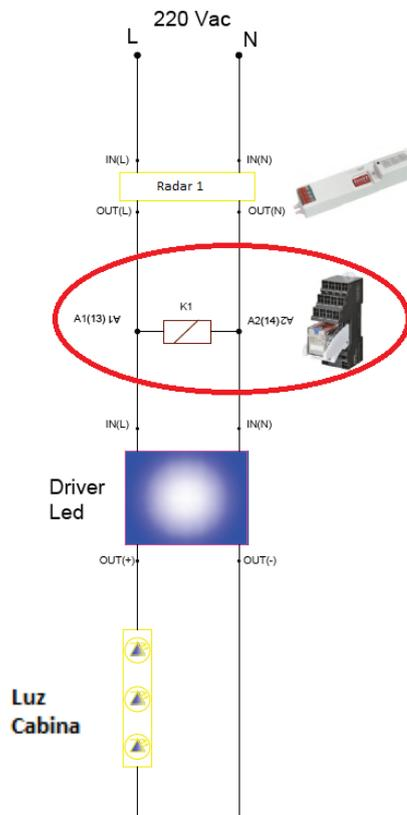

Fig. 3
III. At the Radar 1 output, the supplied OMRON relay coil will be connected to the pins **A1 (13) and A2 (14)** (Fig. 3): **IMPORTANT**.